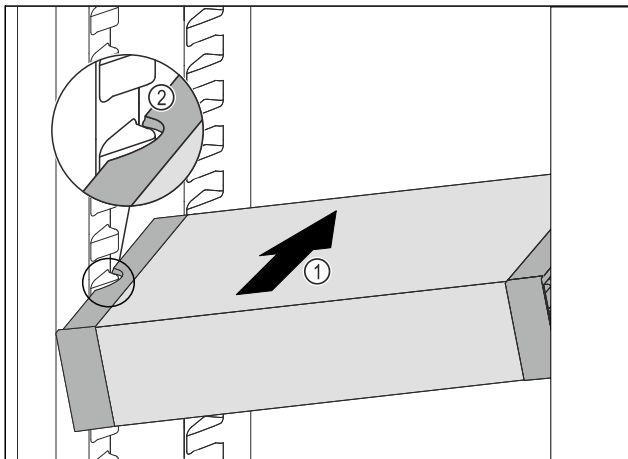

Fig. 112
- ▶ Insert the VarioSafe into the refrigerator compartment at an angle *Fig. 112 (1)* until the recesses in the side *Fig. 112 (2)* of the VarioSafe are at the level of the support rib in the refrigerator compartment.